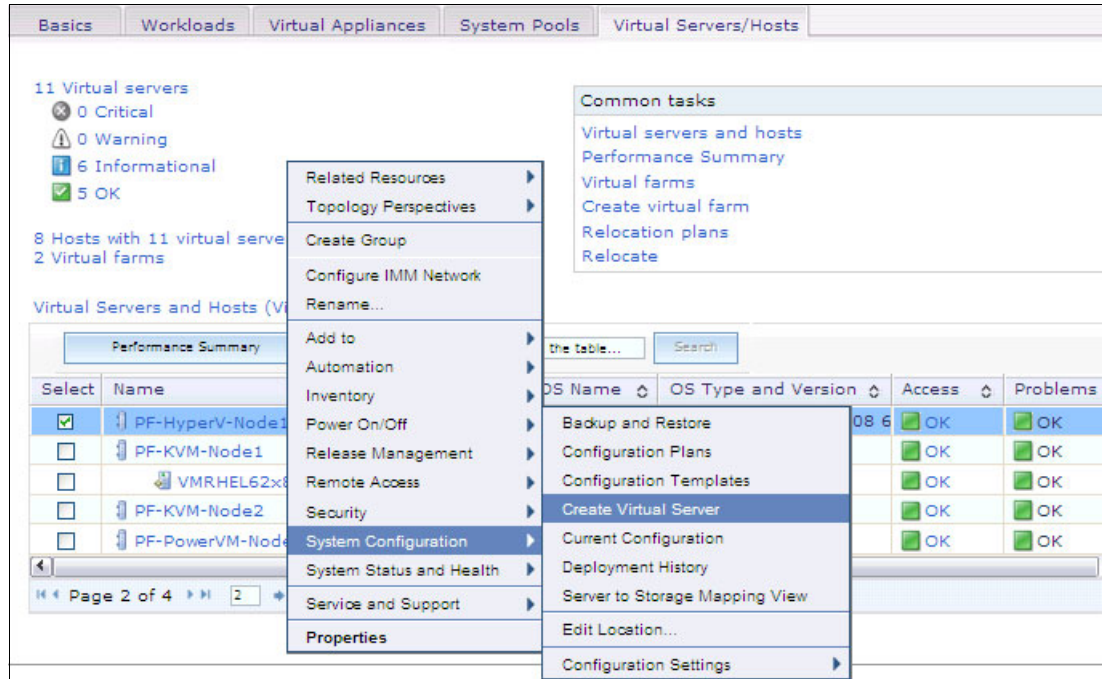

Figure 12-16 VMControl: Create Virtual Server
- Right-click your Hyper-V host and select **System Configuration** → **Create Virtual Server**, as shown in Figure 12-16.